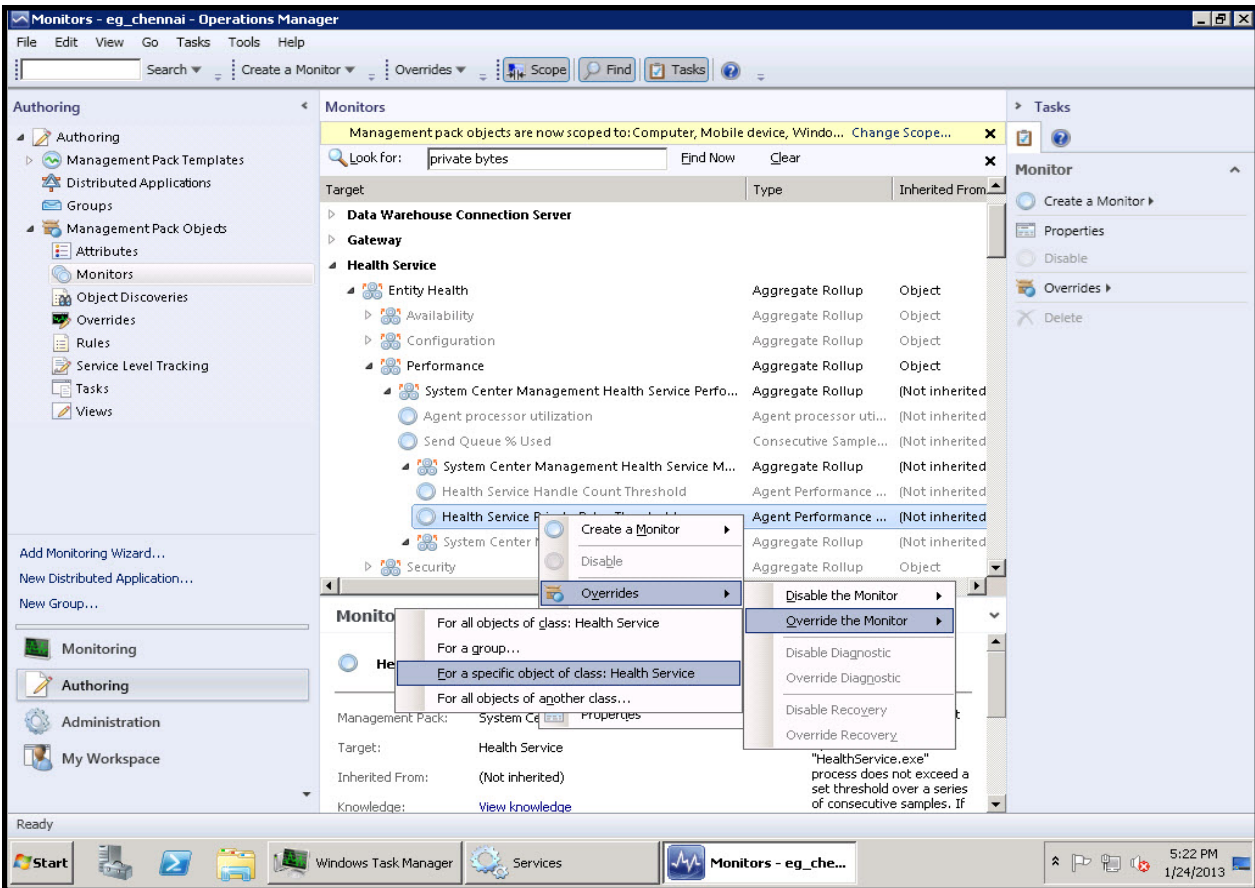

Figure 3.16: Overriding the 'Health Service Private Bytes Threshold' monitor
- First, scroll down the list of monitors to look for the target, **Health Service**. Under the **Performance** category of that target, look for the monitor named, **Health Service Private Bytes Threshold**. Then, right-click on that monitor and follow the menu sequence, *Overrides -> Override the Monitor -> For a specific object of class: Health Service* (see Figure 3.16).
- You will then return to the **Monitors** view of Figure 3.16. Now, from the **Performance** category of the **Health Service** target, right-click on the monitor named **Health Service Handle Count Threshold**, and follow the menu sequence: *Overrides -> Override the Monitor -> For a specific object of class: Health Service*